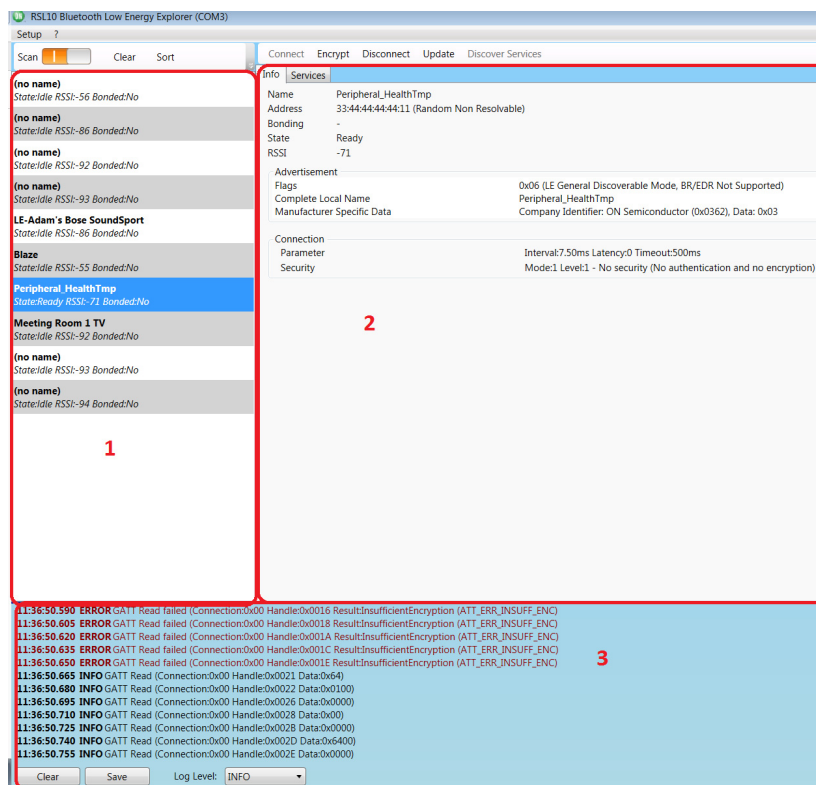

Figure 3. Bluetooth Low Energy Explorer Window Areas
The Bluetooth Low Energy Explorer window is split into three main areas with an occasional fourth area, as shown in Figure 3:
4. If a passkey is needed, it is displayed, or can be entered in the user action area (see Section 2.3, “Using Bluetooth Low Energy Explorer” on page 4, and Figure 3 on page 5).